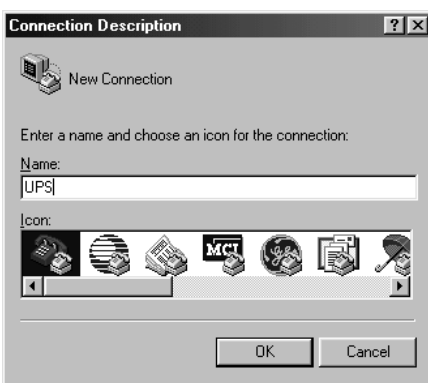

Figure 2-3 New HyperTerminal Connection.
6. Enter a name (UPS) (Figure 2-3). Click OK.